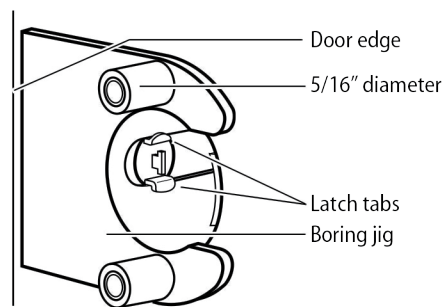

Figure 3 — Positioning the boring jig for drilling the 5/16" holes
- 4 Install the latch and check the door swing. Latch tabs should project into the 2 1/8" diameter hole. See figure 3 in task 3.
- 1 Install the boring jig (KD303) onto the door and engage with latch tabs. Make sure the front edge of the jig is parallel with the door edge as shown in Figure 3.